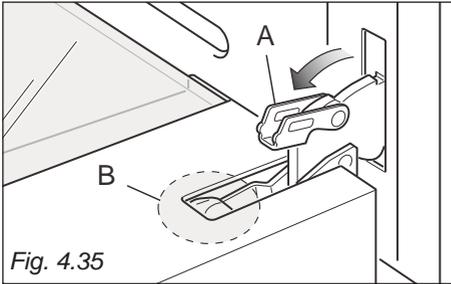

Fig. 4.35
- Fully open the lever "A" on the left and right hinges. (fig. 4.35).
- Gently close the door until left and right hinge levers "A" are hooked to part "B" of the door (figs. 4.35, 4.36).